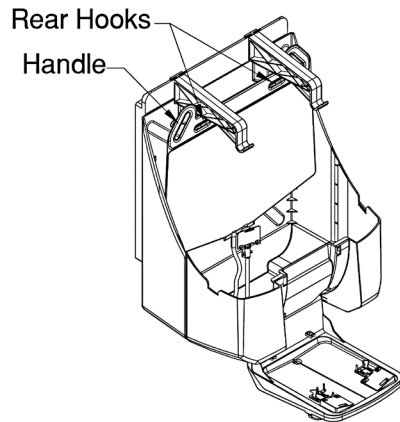

FIGURE 5
- A. Lift first Cartridge by handle provided and place on rear hooks of Hanger bracket (**Ref Figure 5**).